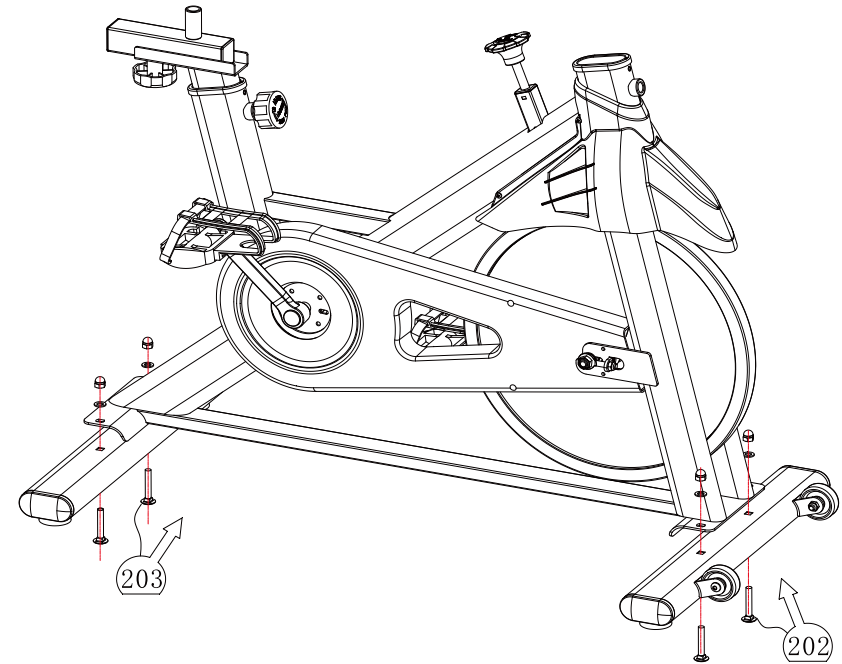

Figure 2
2. As shown in step 202 in Figure 2, insert two "Large Half-Round Head Square Neck Bolt M8x53" into the square hole of the "Front foot tube sets" to pass the arc of the front end of the main body while the carrying wheel is facing forward. The round hole of the shape piece is respectively inserted into the "flat washer  $\Phi 9 \times \Phi 16 \times 1.6$ " and then screwed into the "cap nut M8", and the nut is tightened with a 13# wrench;
As shown in step 203 of Figure 2, two "Large Half-Round Head Square Neck Bolt M8x53" are respectively inserted into the square holes of the "rear foot tube assembly", and the adjustable foot pad is perpendicular to the bottom surface and then passes through the host. The round hole of the curved piece at the front end is respectively inserted into the "flat washer  $\Phi 9 \times \Phi 16 \times 1.6$ " and then screwed into the "cap nut M8", and the nut is tightened with a 13# wrench;